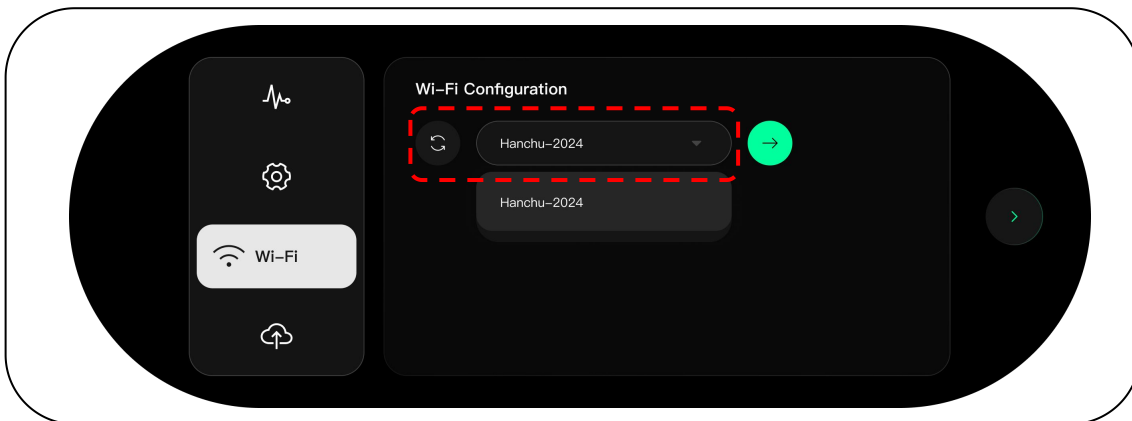

Figure 56
- 2) Click the drop-down menu to select the WiFi you want to connect to, as shown in Figure 56.